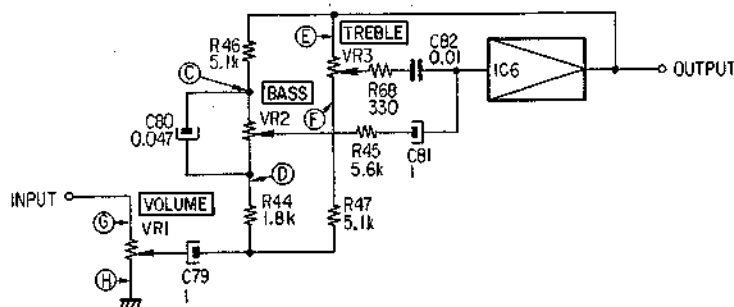

Fig. 1-3
2. TONE CONTROL (Fig. 1-3)
Due to the effect of C80, the impedance across points (C) and (D) in Fig. 1-3 is low at high frequencies and high at low frequencies. Therefore, the low frequencies feedback signals are emphasized at point (C) but de-emphasized at point (D). Consequently, if the VR2 slider is shifted toward point (C), the amount of low frequency feedback will increase, thus reducing the amount of bass in the sound. If, however, the slider is shifted toward point (D), the amount of feedback is reduced and the VR1 output level is increased. So the low frequencies in the IC6 output are emphasized.
High frequencies are better able to pass through C82 than low frequencies. So the VR3 (TREBLE) action controls the high frequencies in the IC6 input signals. When the VR3 slider in Fig. 1-3 is shifted toward point (E), the amount of high frequency negative feedback is increased while the signal level of the VR1 (VOLUME) output is reduced. So the IC6 output will be low in high frequency signals. But when the slider is shifted toward point (F), the amount of negative feedback of high frequency signals is reduced, and the VR1 output signal is increased, resulting in an emphasis of the high frequencies in the IC6 output.